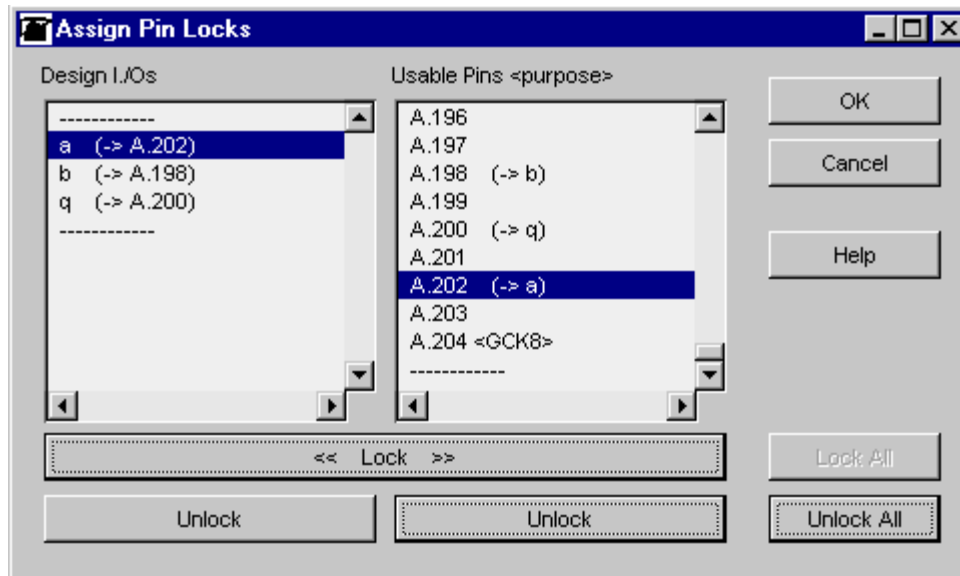

Figure 18 Assign Pin Locks
4. Select Assign Pin Locks, this will open the assign pin locks dialog box, see **Figure 18**.